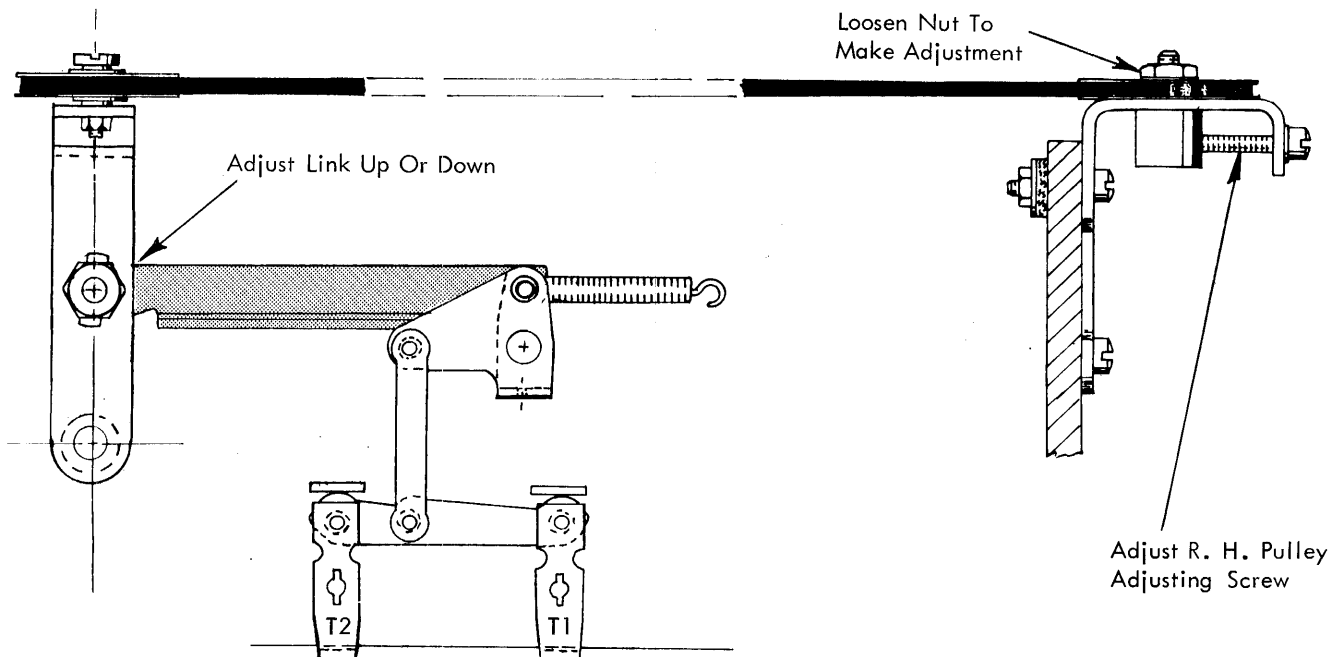
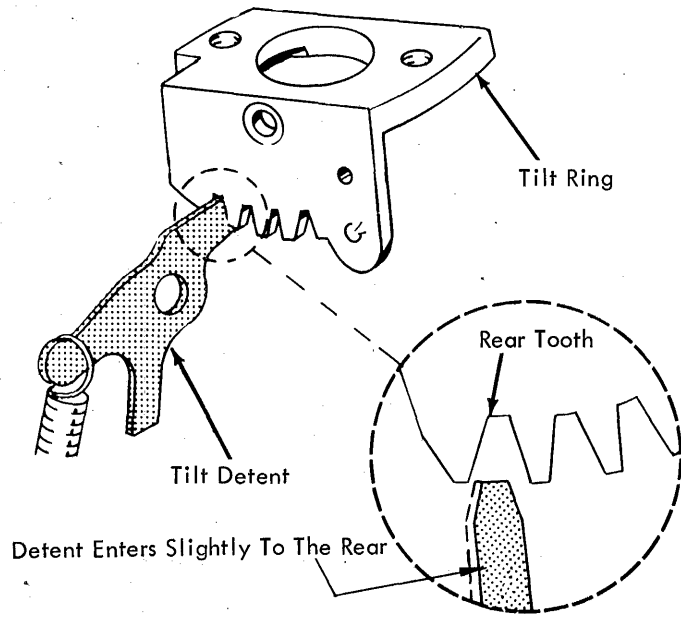

FIGURE 109. Tilt Mechanism
FIGURE 110. Rough Homing
3. **Tilt Arm Motion** - Adjust the tilt link up or down on the Tilt arm (Fig. 109) to control the tilt ring motion so that the tilt ring will coarse align the same for a 3-tilt character as it does for a zero-tilt character.
In order to check this adjustment, it is necessary to roughly home the tilt ring first. To rough home, half-cycle a zero-tilt character and adjust the right hand tilt pulley (Fig. 109) so that the tilt detent will enter slightly on the rear side of the V-shaped detent notch in the tilt ring when the tilt ring play is removed in the restoring direction (Fig. 110). As the tilt detent is allowed to seat itself, the rear of the tilt ring should rise slightly. This is a preliminary adjustment and will require refinement after the proper tilt arm motion is obtained.